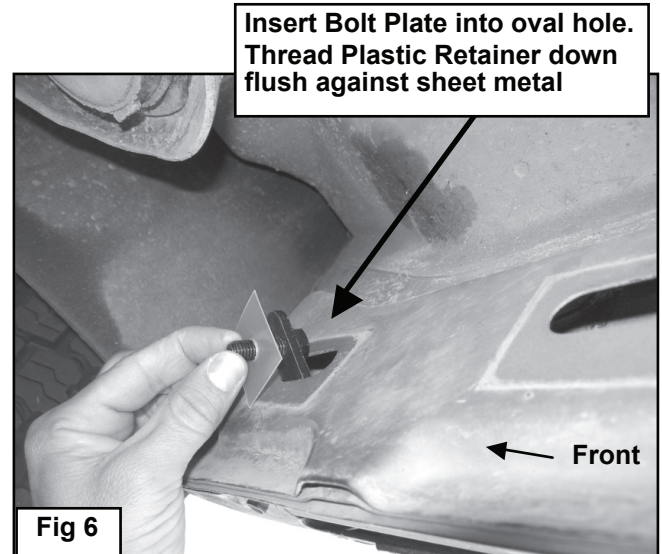
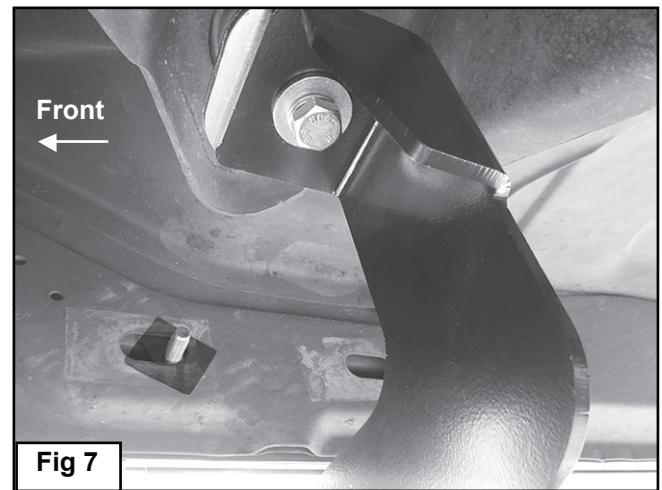

Fig 6
Fig 7
Remove the tape covering the factory hole in the back side of the lower body panel near the Mounting Bracket, (Figure 4). Thread (1) Plastic Retainer part way onto (1) 10mm x 35mm Bolt Plate, (Figure 5). Insert the Bolt Plate into the factory hole on the body panel, (Figure 6). Hold the Bolt Plate in place with one hand and continue to thread the Plastic Retainer down against the sheet metal to hold the Bolt Plate in place, (Figure 7). **IMPORTANT:** The Plastic Retainer is designed to prevent the Bolt Plate from falling into the body panel and to aid in Bracket installation.